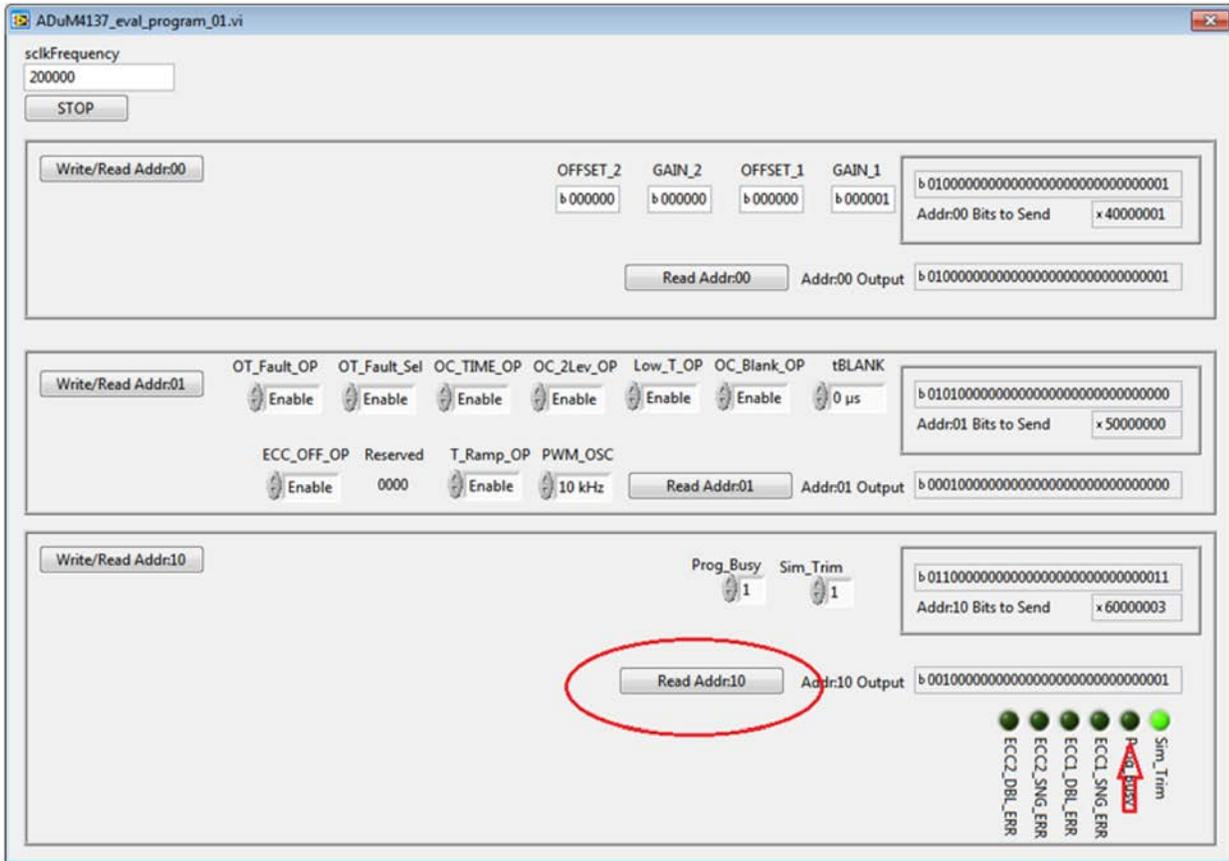

Figure 15. ADuM4137 Showing Programming Complete
2. After this programming, click **Read Addr:10**. Once the PROG\_BUSY bit changes to 0, the EEPROM is programmed. The programming takes approximately 10 μs. Therefore, a user generally cannot click the read button fast enough to see 1 in the **Prog\_Busy** box the second time, but an automated program can (see Figure 15).